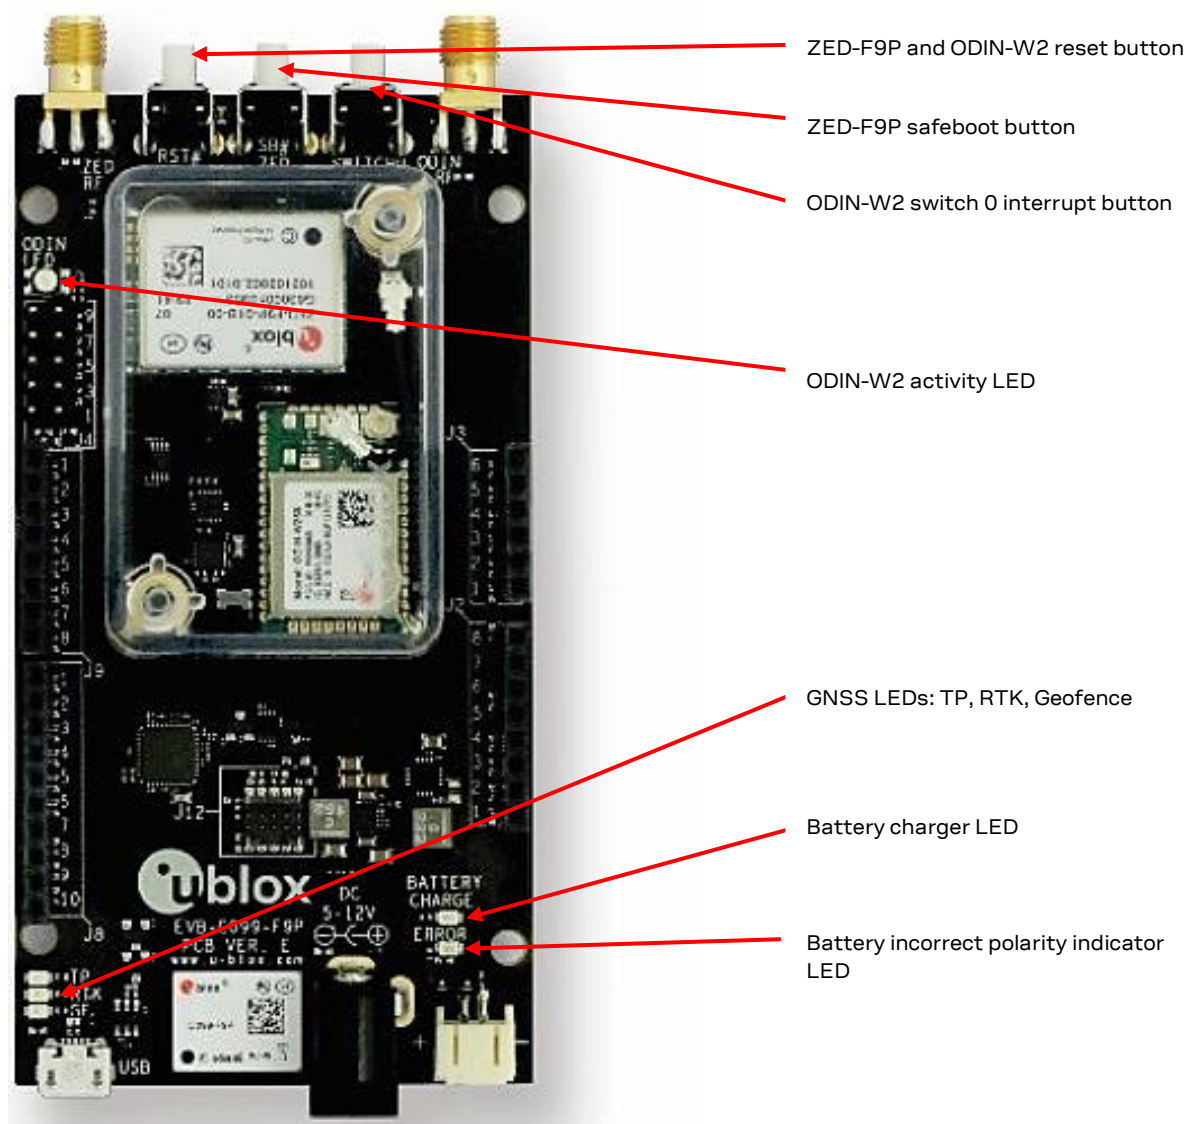

Figure 6: Switches and LEDs
- Switches and LEDs – Figure 6.
For scenarios that require a non-wireless data link, ODIN-W2 can be disabled. To disable ODIN-W2, connect the safeboot jumper, which forces ODIN-W2 into safeboot mode during device startup. See Figure 6 to locate the safeboot pins.